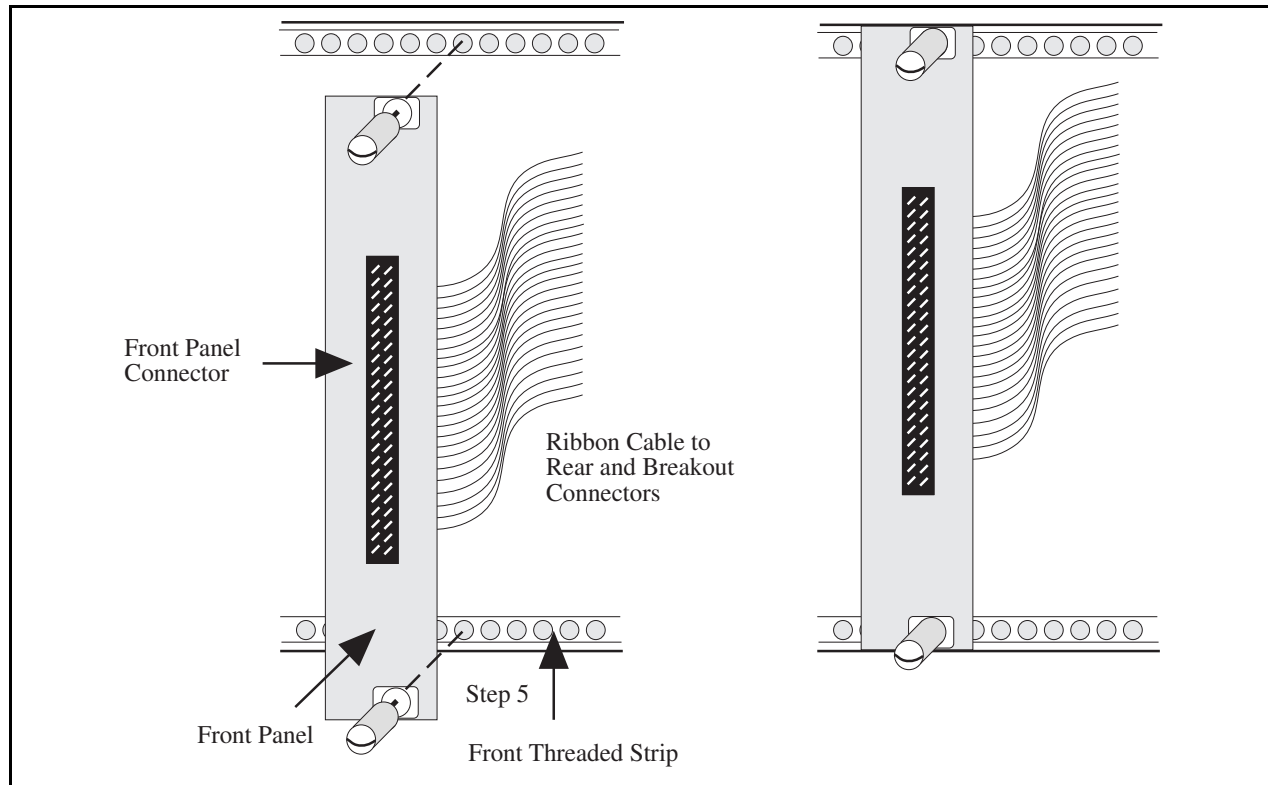

Figure E-4. SCXI-1180 Front Panel Installation
5. Screw the front panel into the front threaded strip, as shown in Figure E-4.